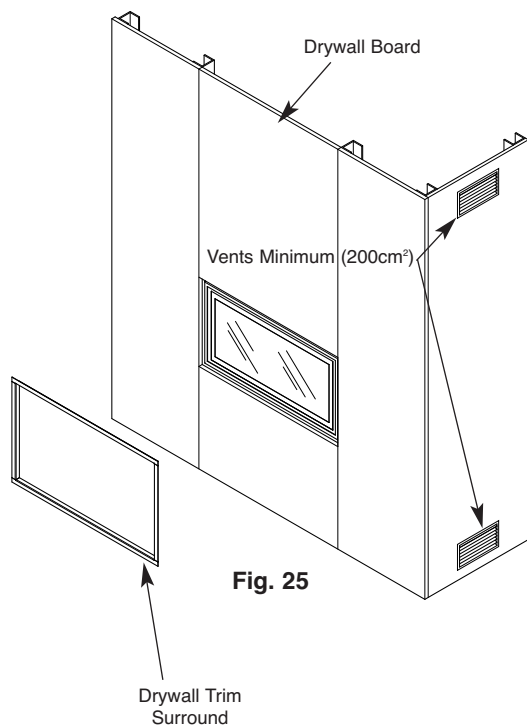

Fig. 25
9. Cut and fix drywall boards to the framework of the chimney breast ensuring they fit neatly around the flange of the Frame Kit (Fig. 25).
10. The chimney breast must have adequate ventilation, minimum of 200cm². The room will utilise warm air flow if a vent is fitted at the top and bottom of the chimney breast as shown in Fig (Fig. 25).
11. Locate the drywall trim surround into the opening and secure using the attached magnets (Fig. 25).